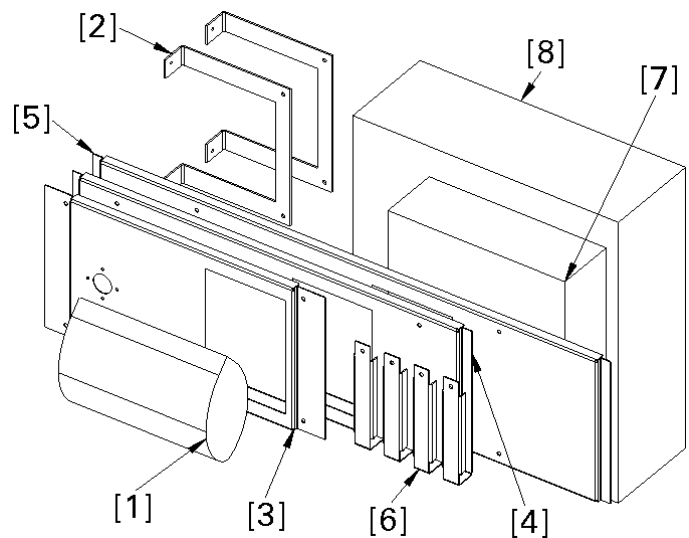
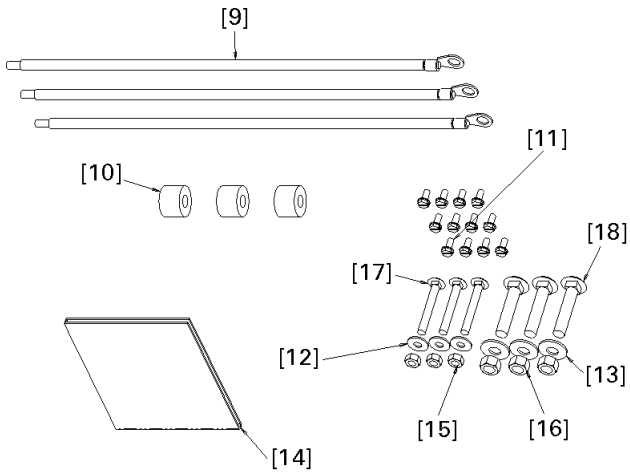

Figure 1. Typical TVSS kit contents.
Figure 2. Contents of the hardware package [2] included with the TVSS kit.
1. **Confirm the contents of the kit.** Figure 1 illustrates the contents of the kit, with the parts listed in Table 2. Figure 2 illustrates the hardware included in the kit ([1] in Table 2), with the parts listed in Table 3.